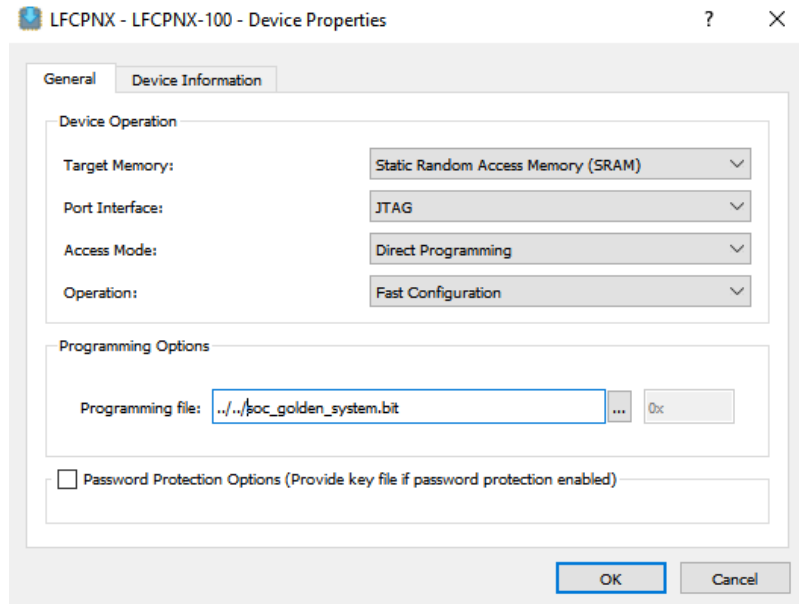

Figure 7.25. Device Properties to Program the FPGA Bitstream in SRAM
22. To program the FPGA Golden GSRD bitstream, double-click on the **Operation** tab to update the selections as shown in Figure 7.25. Make sure to provide the path to the .bit file location on your local machine where you have unzipped the executables.